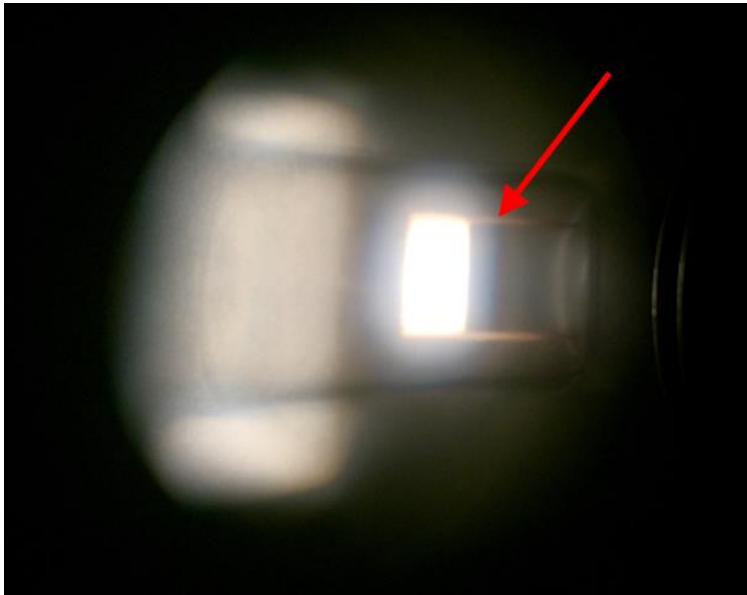

Figure 40: Primary image of QTH lamp filament after adjusting condenser lens assembly.
7. Move the adjustment lever so that it rotates about the cylindrical condenser lens assembly until the filament of the QTH lamp can be clearly seen on the backdrop placed in front of the TLS. The final position of the Adjustment Lever should be at the position which outputs the sharpest filament image on the backdrop, which is usually closest to the lamp housing as possible. The spiral shape of the lamp filament should be visible on the backdrop, as shown in Figure 40. This image is referred to as the "primary image".